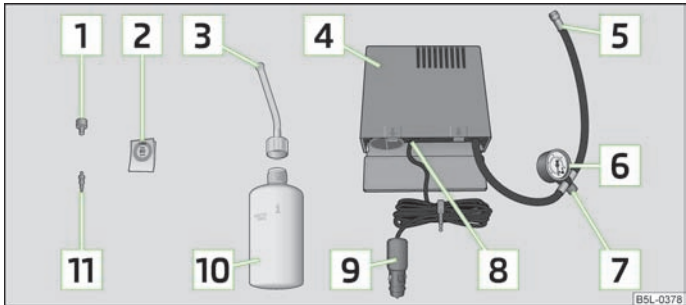

Fig. 162 Components of the breakdown kit
- Stick the sticker [2] » Fig. 162 on the dash panel in view of the driver.
- Forcefully shake the tyre inflator bottle **10** » Fig. 162 several times.
- Screw the tyre inflation hose **5** » Fig. 162 of the air compressor firmly onto the tyre valve.